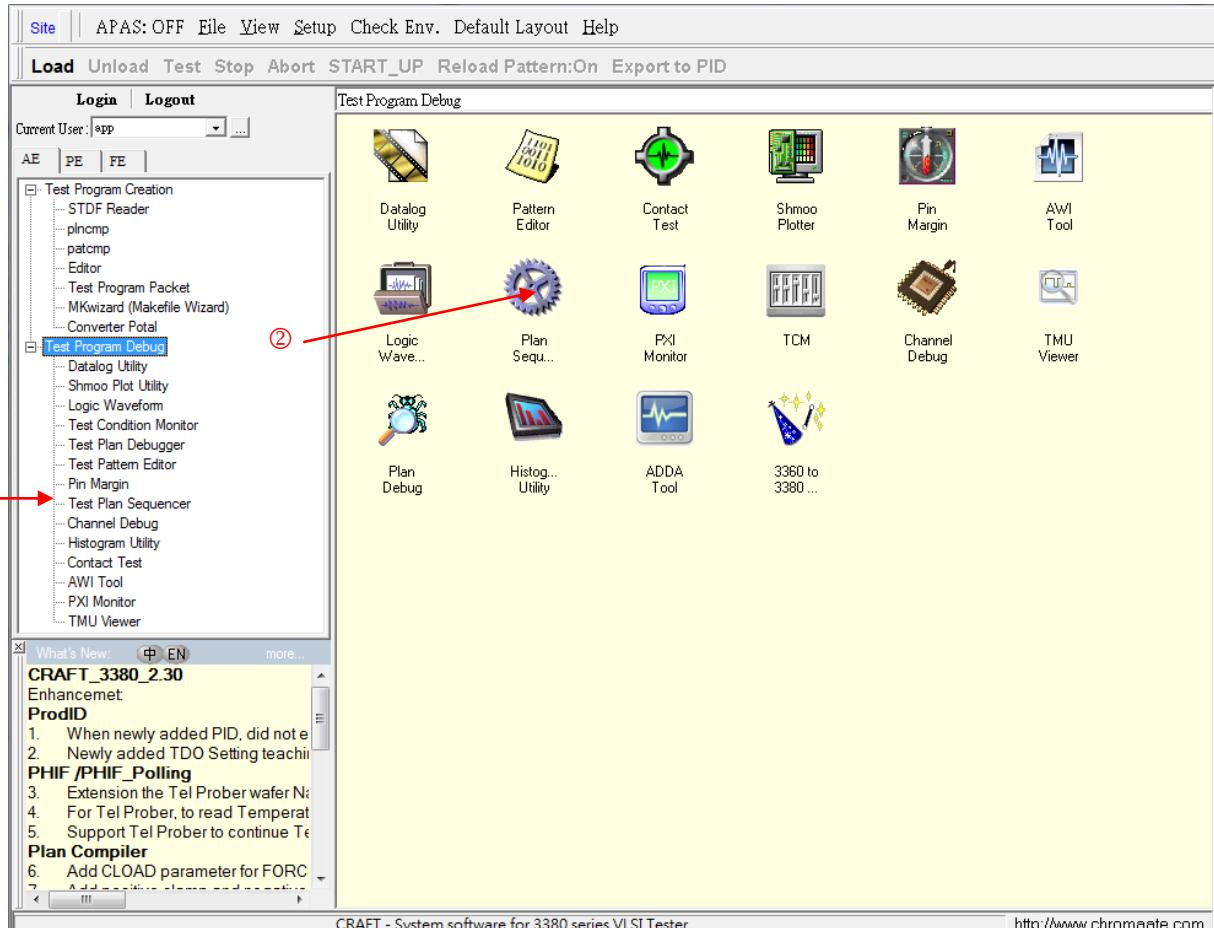

Figure 8-2 System Control Window
(1) Start the plan sequencer
The plan sequencer window opens when you click the sequencer item (1) or the sequencer icon (2) in the system control window (Figure 8-2).